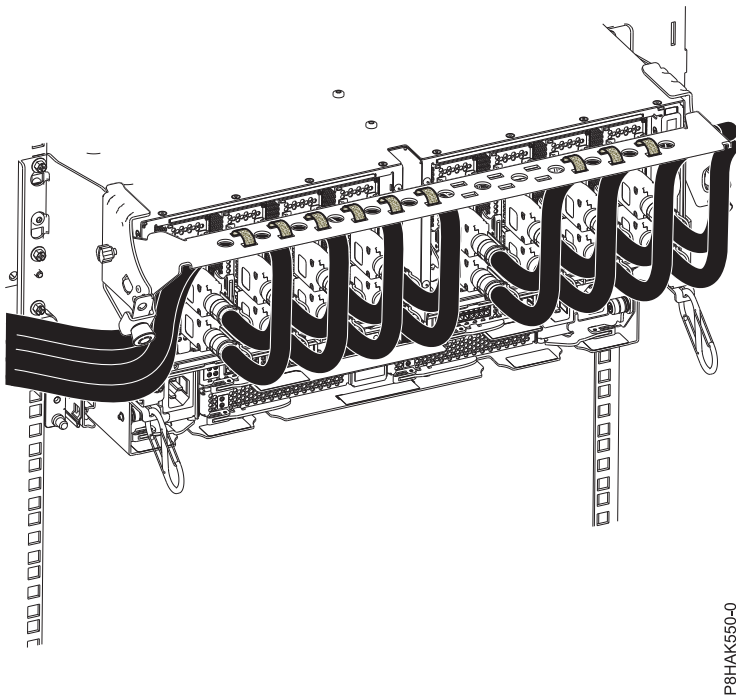

Figure 23. Routing the cables to the cable management bracket
5. Route the CXP, expansion drawer cables, and input/output (I/O) cables to the cable management bracket. See Figure 23 on page 22.
- f. Using hook-and-loop fasteners, route the bulk wire and cable fiber to the cable management bracket as shown in Figure 23 on page 22.